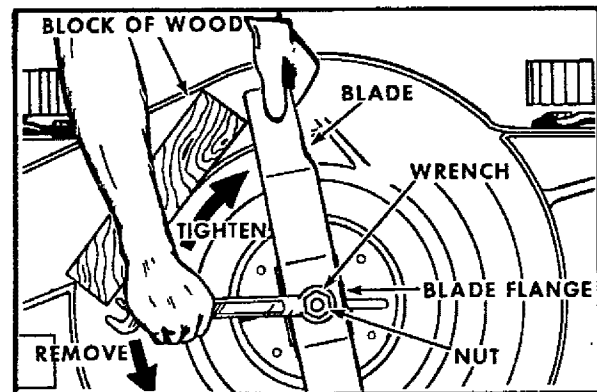

FIG. 18
1. To remove the blade and blade flange, turn mower on its side with the carburetor up (See Fig. 18).
2. Take blade nut off by turning counter-clockwise. Use a 15/16" box or open end wrench on the blade nut (See Fig. 18).
5. Put the blade flange on the engine crankshaft with the tab in the slot of the crankshaft (See Fig. 18).
6. Put the blade on the crankshaft as shown in (Fig. 18). Be sure the word "TOP" (stamped in the blade) is toward the engine.